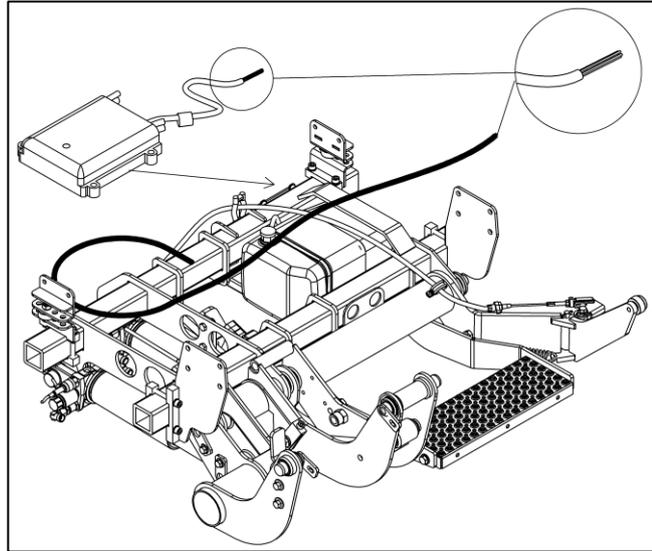

Fig. 25
- Determine the installation location for the handheld control and route the cable to the installation location (see Fig. 25).